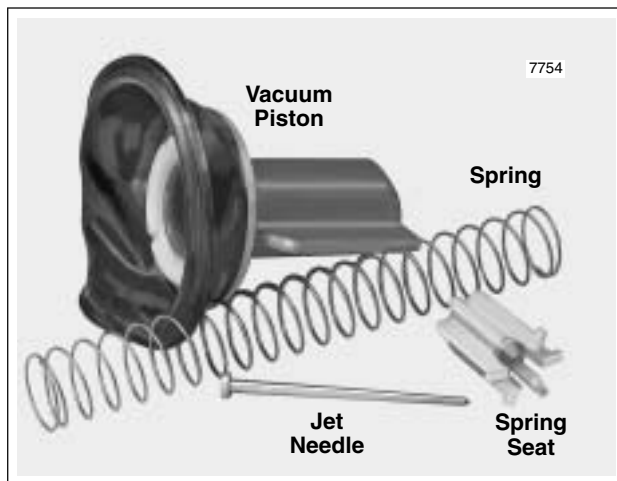

Figure 4-7. Vacuum Piston Chamber Components
4. Remove vacuum piston spring. Carefully raise diaphragm to remove vacuum piston assembly. Remove spring seat and jet needle from vacuum piston bore. See Figure 4-7.
1. Thoroughly clean all loose parts (except diaphragm) with carburetor cleaner. See Figure 4-7. Blow dry using low pressure compressed air.